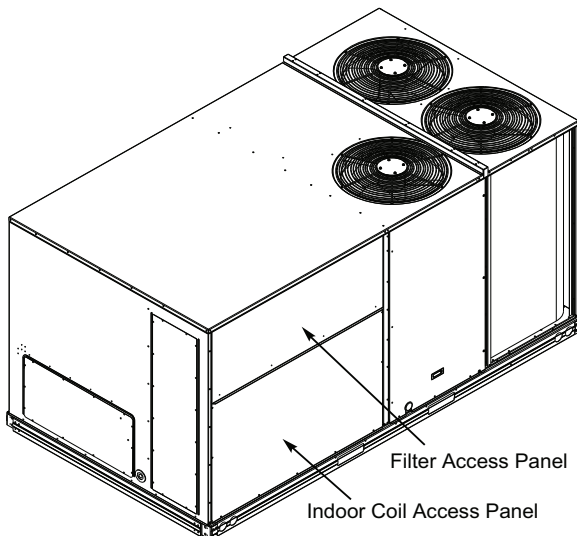

Fig. 9 — Typical Access Panel Locations
2. To gain access to the hood, remove the filter access panel (see Fig. 9).
2. To gain access to the hood, remove the filter access panel. See Fig. 9.